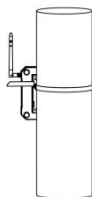

Figure 9
Step2: Position the Hub against the tree, wrap the strap around it, then feed the end through the buckle and tighten until the Hub is secure (*Figure 9*).